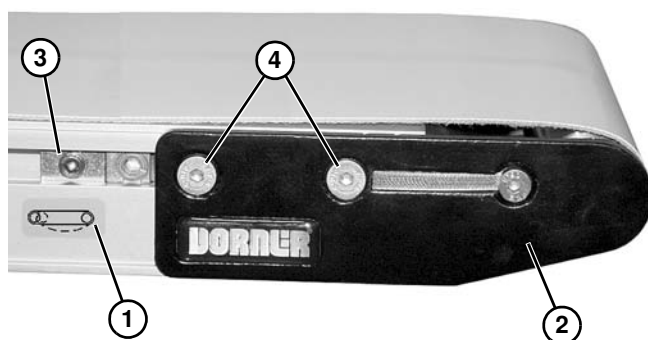

Figure 71
1. On tension end of the conveyor, identified with  a label (**Figure 71, item 1**), push in headplate assembly (**Figure 71, item 2**):
- a. On both sides of conveyor, loosen and move cam tracking assemblies (**Figure 71, item 3**) (if equipped) away from headplates.
- b. Loosen fastening screws (**Figure 71, item 4**) and push headplate assembly inward.